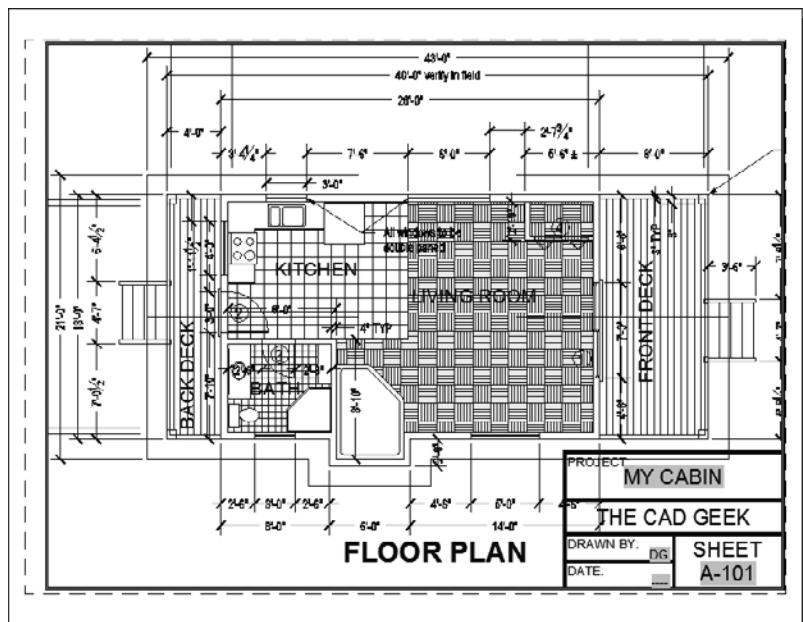

FIGURE 14.52 The cabin drawing zoomed into the floor plan
4. Double-click in the viewport, if necessary, to switch to model space and then use the Pan tool inside the viewport to adjust the position of the cabin so that the floor plan is centered (see Figure 14.52).